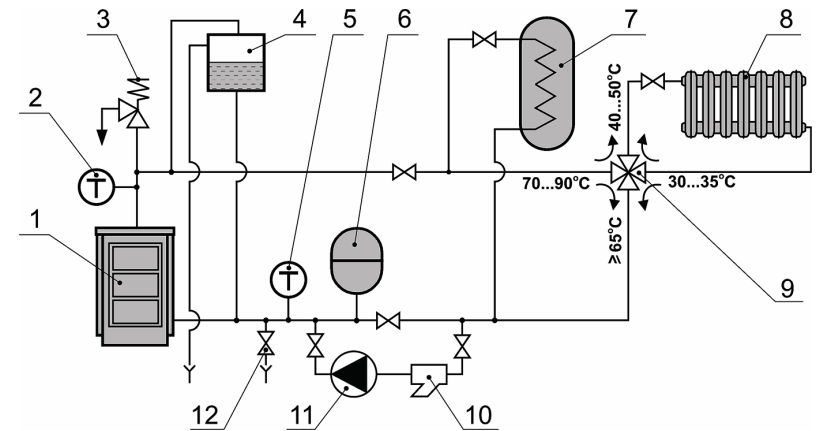

Fig. 3. Recommended connection scheme
4.3. Requirements for connection to heating system (Fig. 3.):